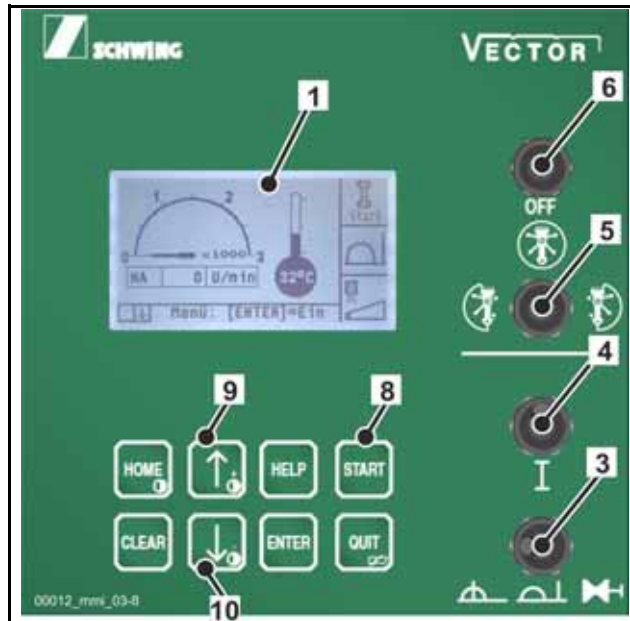

Fig. 461
- Confirm your intention by pressing the "START" button (8) (**Fig. 461**).
If selector switch (5) (**Fig. 461**) is pressed during the installation of the machine, the following message will appear: